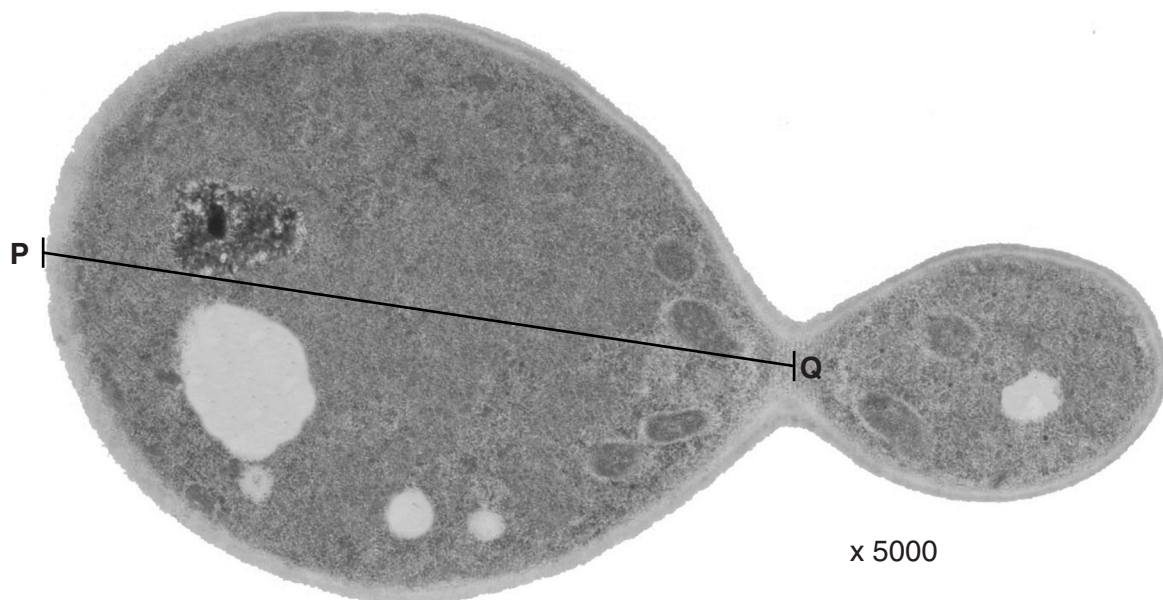

Fig. 1.2
- (d) Fig. 1.2 shows yeast as seen using a microscope.
- (i) Describe what is occurring in Fig. 1.2.
- (ii) You are going to calculate the actual length of a yeast cell shown in Fig. 1.2.